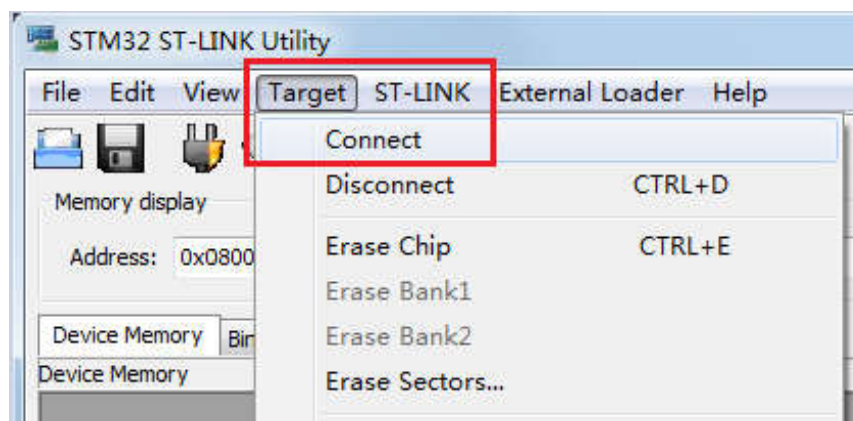

图 4.1-1 点击 Target->Connctet
- 3) 打开 STM32 ST-LINK Utility, 点击 “Target->Connect”, 如图 4.1-1 所示;